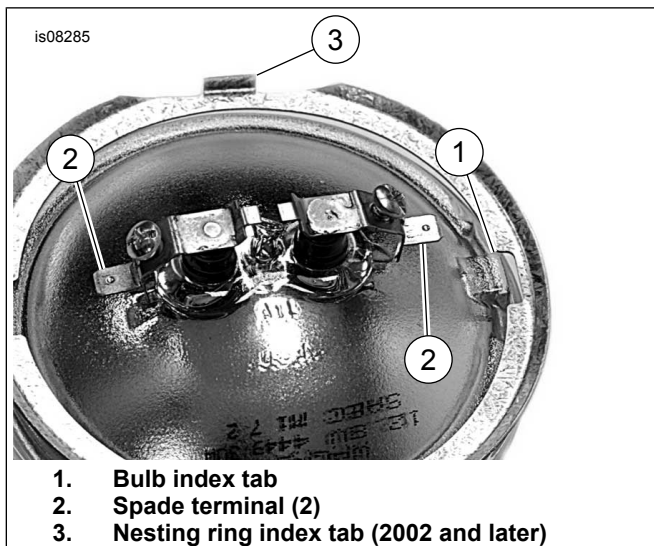

Figure 3. Auxiliary Lamp Bulb Terminals
7. See Figure 3. Place the inner nesting ring on the bulb. Connect the black wire to the bulb spade terminal next to the bulb indexing tab (1) on the bulb. Install the gray wire on the remaining spade terminal.
9. Slide the conduit (7) from the kit over the lamp wire.